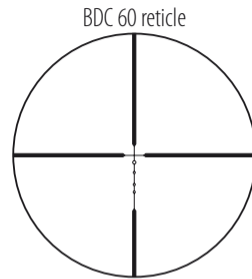

Fig. 3
(1) Focusing
- 1 Look through the eyepiece with your eye positioned about 3-4 in. (7.5-10 cm) away from the eyepiece to see the BDC 60 reticle (Fig. 3).